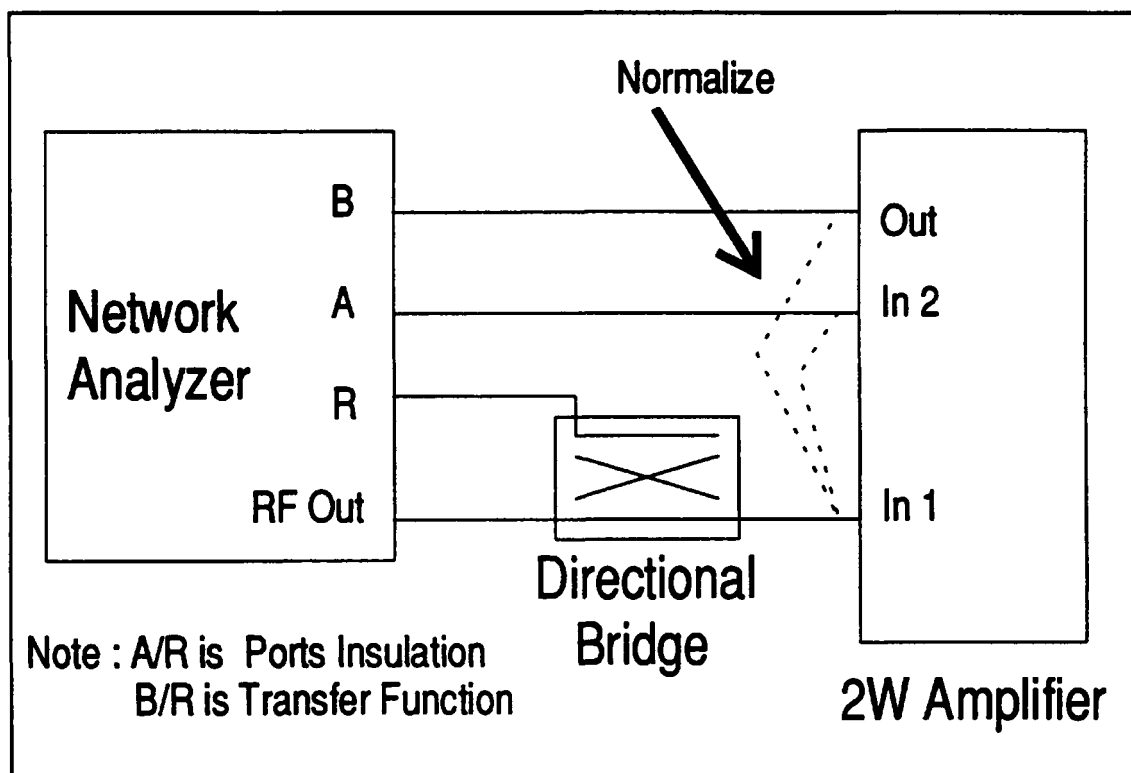

Figure 5. RF Measurement Set-Up.
2.1	Using the test set-up shown in Figure 5 measure the amplifier transfer function ( B/R ) and input ports insulation ( A/R). Verify that the Gain at 2.5 MHz is 13.5 dB +/- 0.5 dB. Verify that the -1 dB bandwidth is at least 0.3 MHz to 40 MHz. Verify the in the band 0.3 MHz - 20 MHz the insulation is better than 26 dB